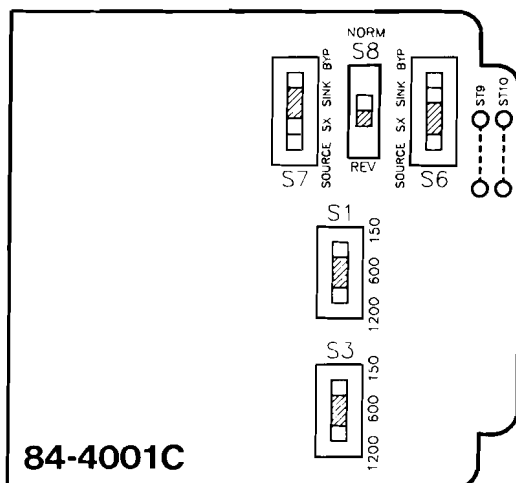

figure 6. 4001C option switch and strap locations
where indicated on the module's printed circuit board, as shown in figure 6. If an additional (or alternative) connector-pin appearance for the RCV OUT SX lead is desired on pin 3, install option strap *ST10* where indicated on the module's printed circuit board (also shown in figure 6). Before installing *ST9* or *ST10*, be sure to observe the caution below.
3.06 Five option switches must be set before the 4001C can be placed into service. Locations of these switches on the module's printed circuit board are shown in figure 6, and instructions for setting the switches are given in paragraphs 3.07 and 3.08.